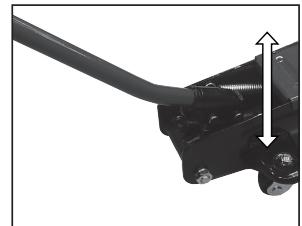

fig 6.
2. Rapidly pump the handle assembly 10 to 20 times to purge air from the hydraulic system (fig.6).
4. Insert the lower handle into the handle base and rotate anti-clockwise to lock in place (fig.6).